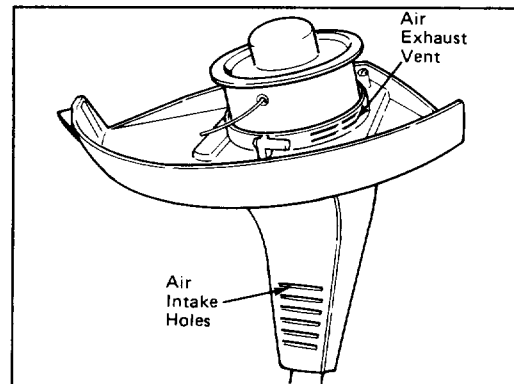

Figure 23
2. Wipe debris away from air intake holes in motor housing (Fig. 23).
3. Air exhaust vent is located on underside of shield (Fig. 23). Scrape vent clean regularly.